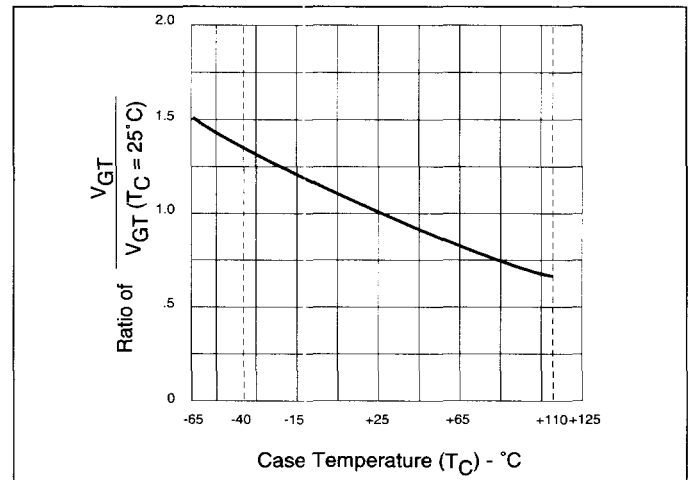

Figure 1.6 Normalized DC Gate Trigger Voltage for All Quadrants vs Case Temperature
- (5) See Figure 1.6 for  $V_{GT}$  vs  $T_C$ .